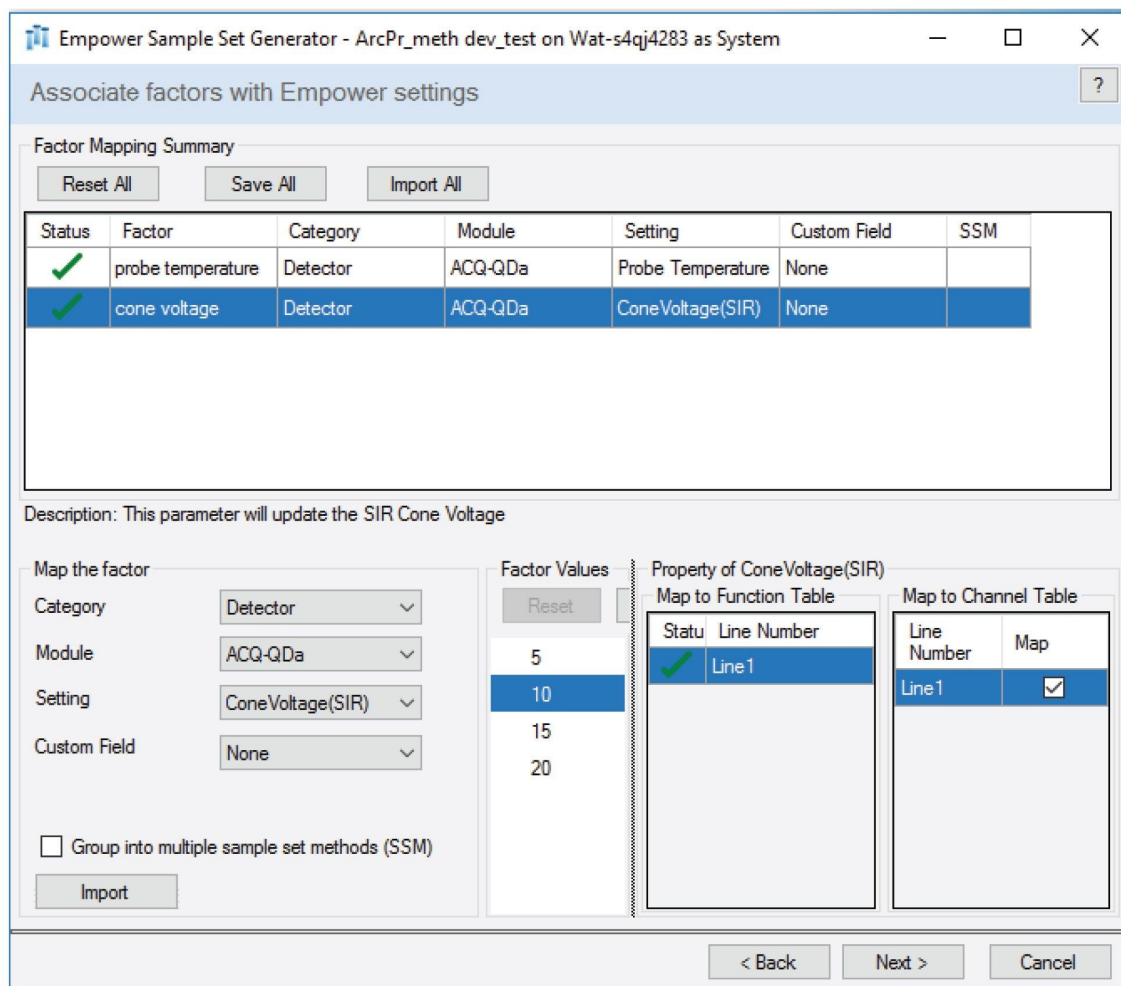

Figure 2. Empower SSG. Associate factors or instrument variables with Empower settings.
- Study factors probe temperature and cone voltage were associated with the Empower settings (Figure 2).